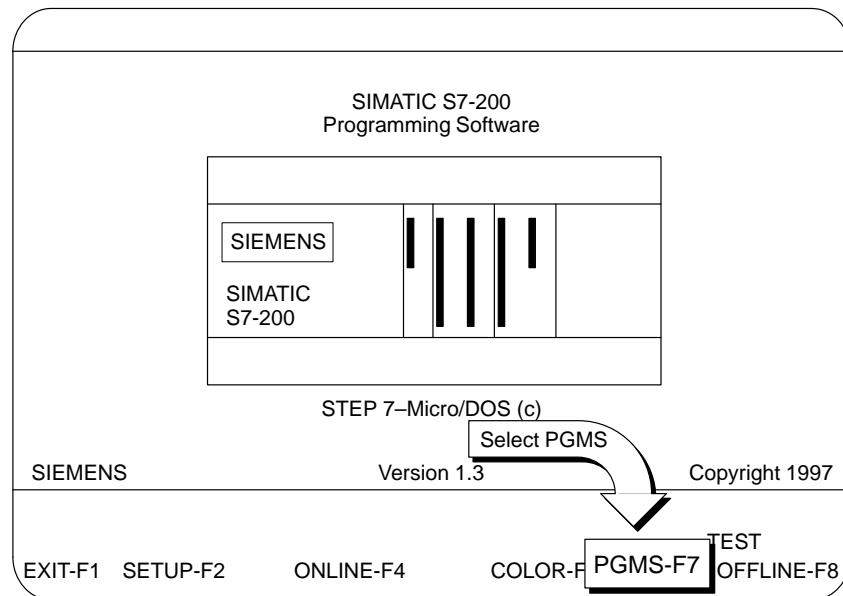

Figure 5-12 STEP 7-Micro/DOS Start-up Screen
1. Display the directory screen by pressing **PGMS-F7** from the main menu of the start-up screen. See Figure 5-12.